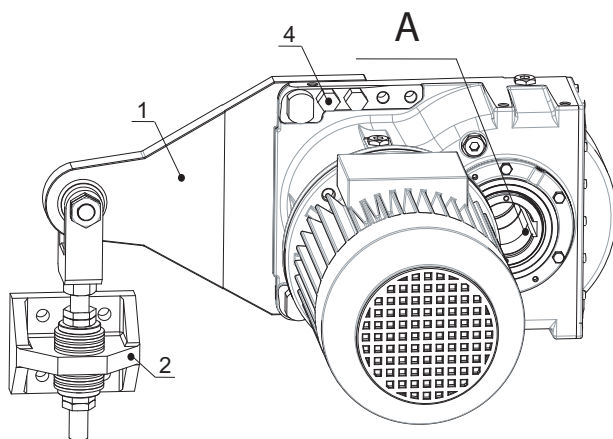

Fig. 8
Secure the reaction arm to the machine structure (pos. 2) and tighten using the anchor bolts (minimum recommended class 8.8) to the torque value indicated in the Table 4:Tightening torques (p. 19) (see Fig. 8 (p. 21)).